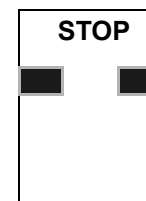

Figure 6
3.6 When the correct stop position is reached, all of the LEDs for the closing rate field will be off, the word "STOP" in yellow will appear in the display and two red, rectangular fields will light in the azimuth guidance area of the display (see figure 6).